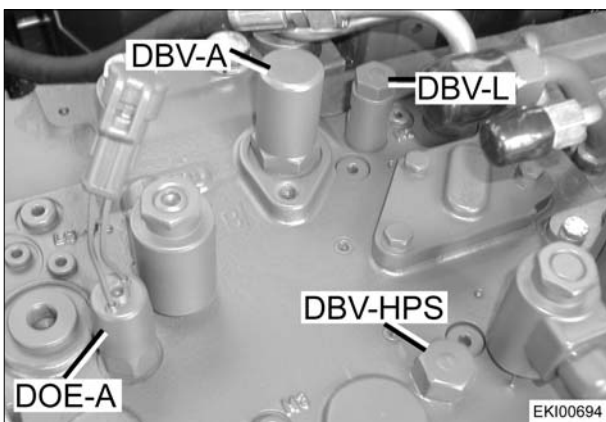

Fig. 2
- The pressure-relief system for the auxiliary pump DBV-L (see Fig. 2) is generally no longer in the steering unit LE nor provided in the form of a separate external valve, but is incorporated in the central control block ZSB.
- Pressure relief for the auxiliary pump PL is provided by the DBV-L valve in the central control block ZSB (see Fig. 2).